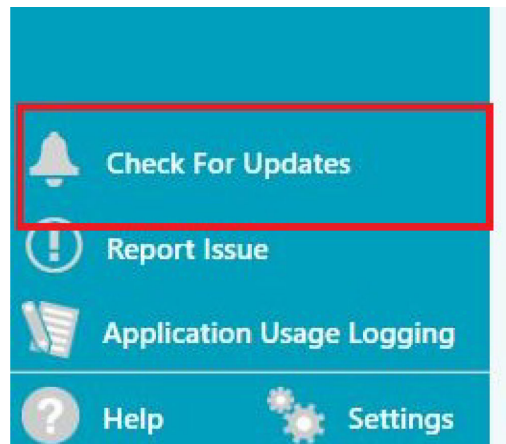

Figure 7. Updating ACE
2. Verify that the latest version of the software is installed in the ACE sidebar. Click **Check For Updates** option, as shown in Figure 7.